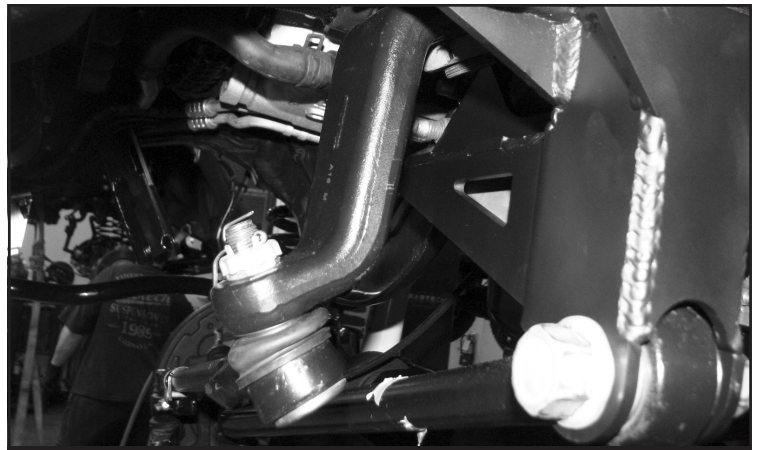

FIGURE 25 - STEP 25
25. Reinstall the track bar to the new frame bracket. Torque to 400 ft-lbs. Install the drag link to the new Fabtech pitman arm using the factory hardware and the new supplied cotter pin. Torque to 70 ft-lbs. **NOTE: The drag link will need to be rotated 180 degrees and installed from the bottom side of the pitman arm. SEE FIGURE 25**